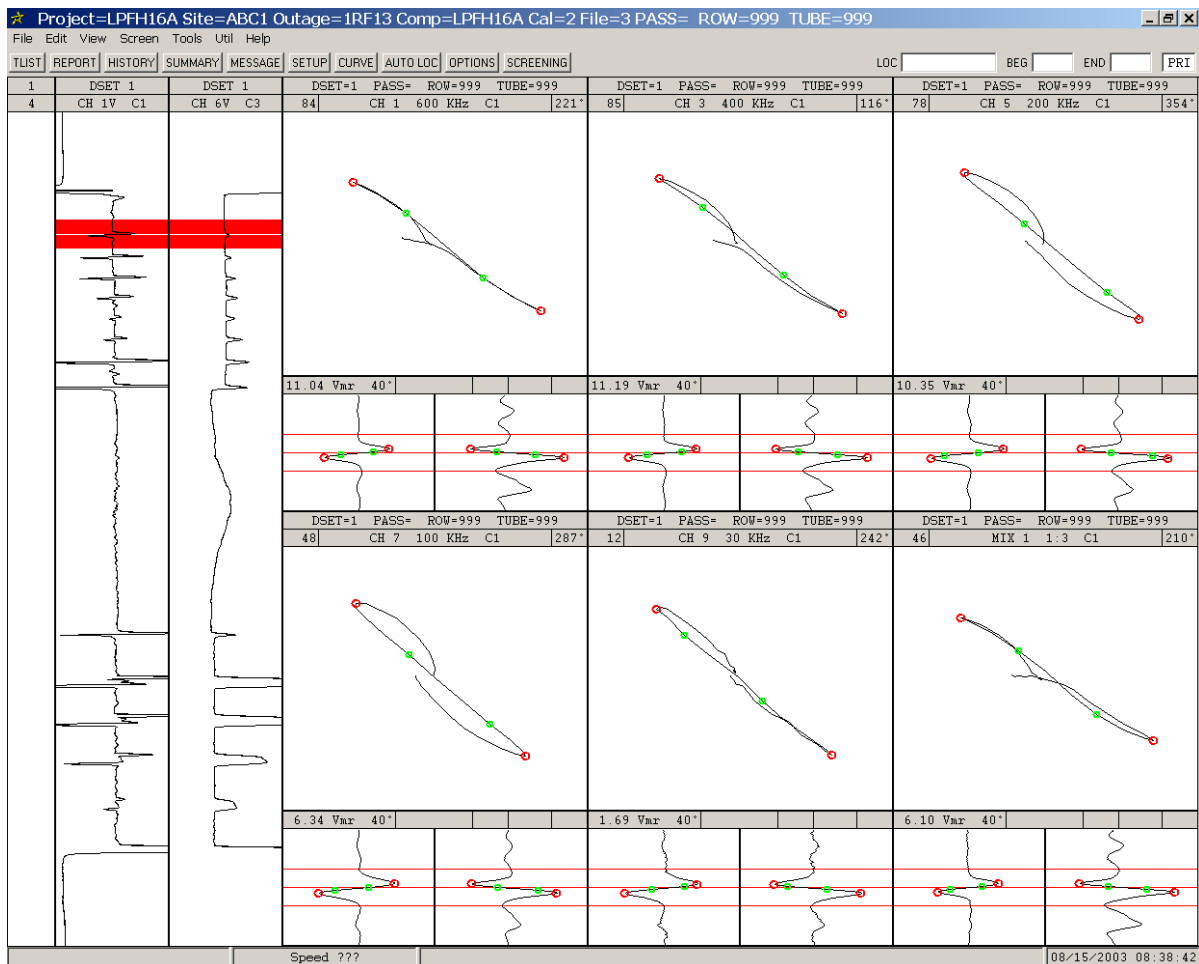

Figure 1-9. Analysis Screen - Differential Channels - Rotation Setup
STEP 12: Repeat the 2 steps above until the **100% TWH** signal measures a phase angle of 40° for channels 1, 3, 5, 7, and 9 (*all differential channels*) as shown in Figure 1-9.
Note: The mix channel shown in Figure 1-9 will be created and calibrated during this topic.